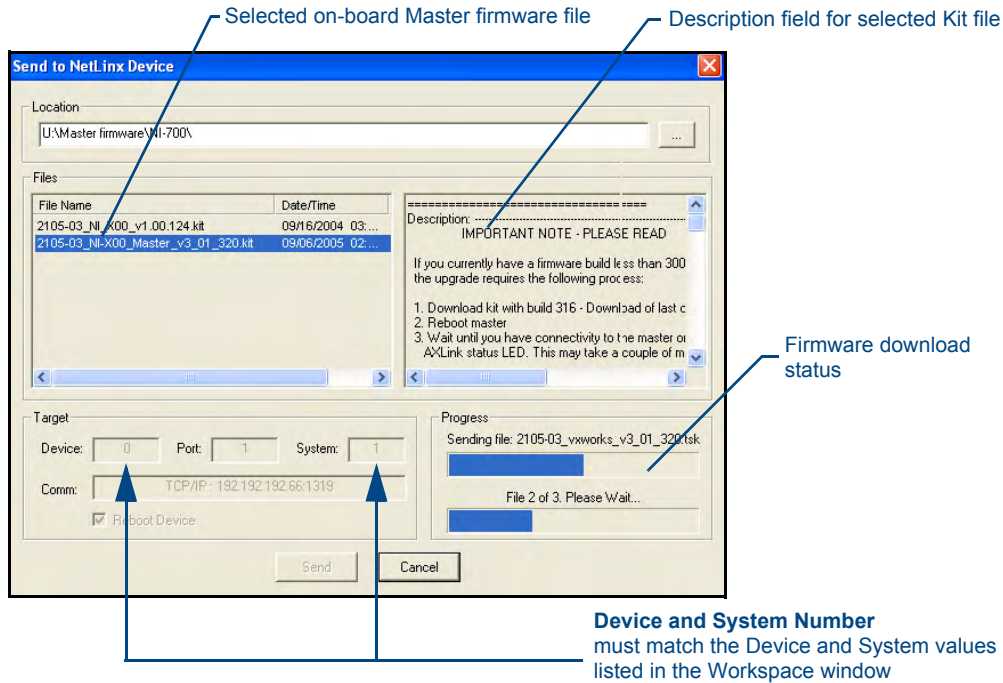

FIG. 27 Send to NetLinX Device dialog (showing on-board NI_Master firmware update via IP)
- From within Studio, select **Tools > Firmware Transfers > Send to NetLinX Device** from the Main menu to open the Send to NetLinX Device dialog (FIG. 27). Verify the target's System number matches the value listed within the active System folder in the **OnLine Tree** tab of the Workspace. **The Device number is always 0 for the NI Master.**
- Select the NI Master's Kit file from the **Files** section (FIG. 27).
- Click **Send** to begin the transfer. The file transfer progress is indicated on the bottom right of the dialog box (FIG. 27).